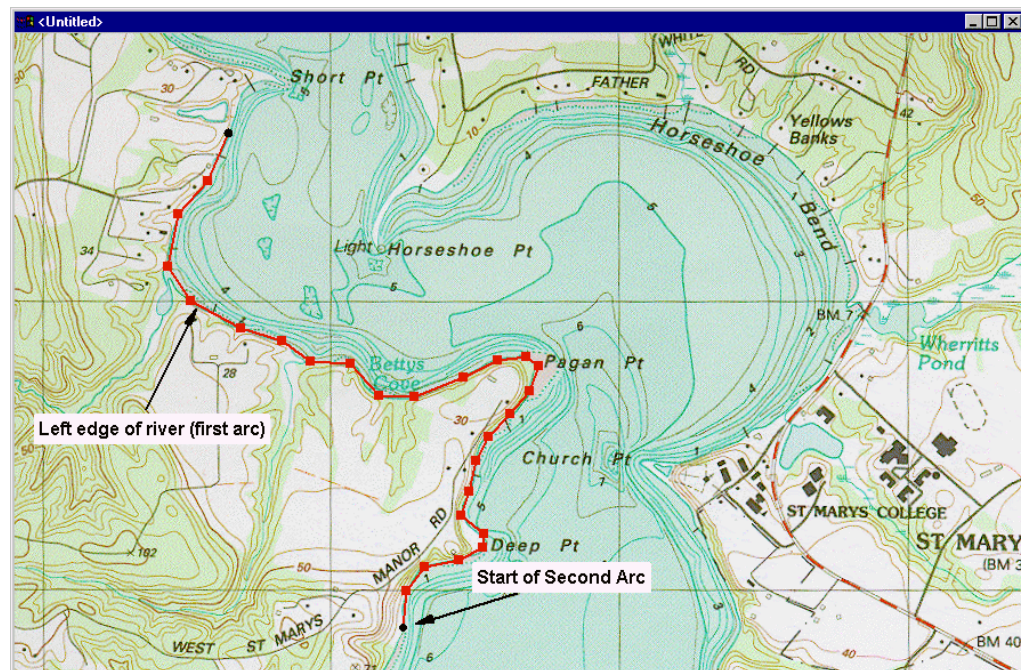

Figure 2-3 Creation of Feature Arcs
2. Drag a box around the main portion of the river. It should look like Figure 2-3.
2. Using the mouse click on various points along the left edge of the river, double click the mouse button when you reach the end. (see Figure 2-3)